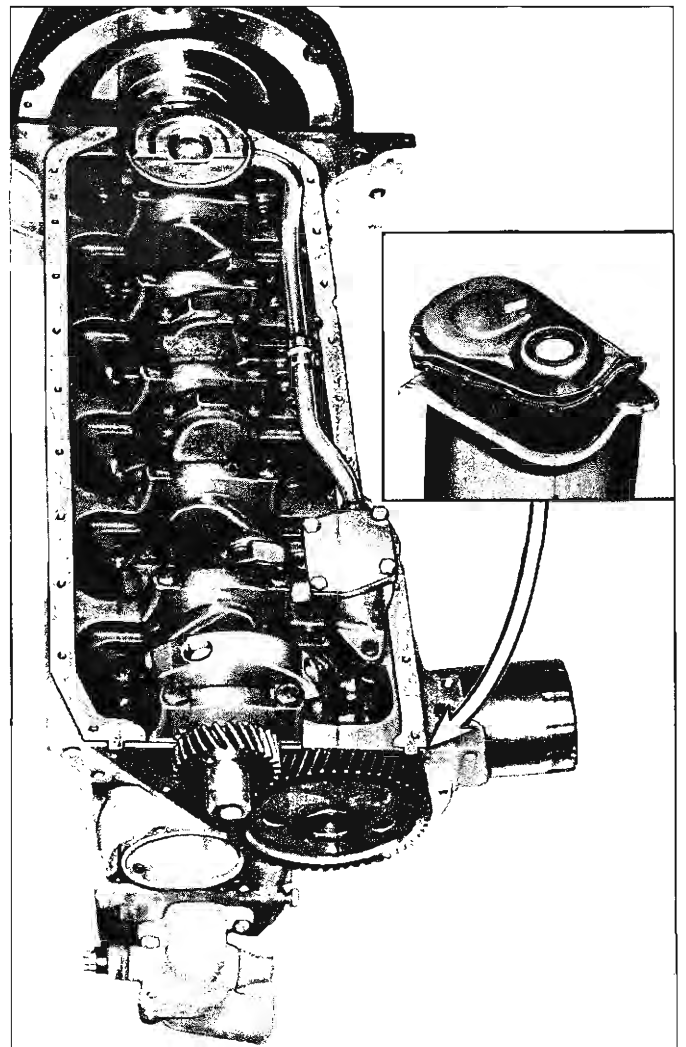

Fig. 10L—Pan Gasket and Seals
4. Install side gaskets on cylinder block using gasket sealer as a retainer. (Side gasket tabs index into notches of front seal (fig. 10L).
4. Install side gaskets on cylinder block using gasket sealer as a retainer. (Side gasket tabs index into notches of front seal. (fig. 10L).